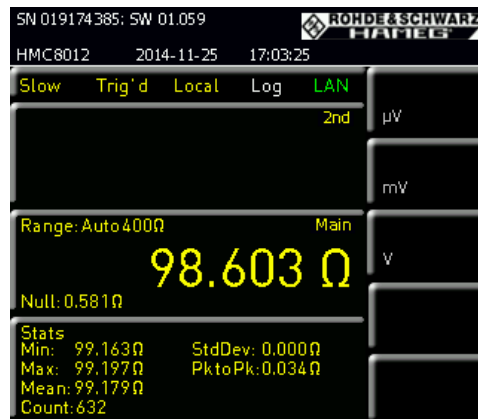

Fig. 2-12: Display of a resistance measurement.
- Additional statistical values such as max., min., mean, etc. are displayed under the main measurement result (Fig. 2-12). To hide the values or to change the settings, press the **MEAS** key and select the **STATS** softkey.
- Additional statistical values such as max., min., mean, etc. are displayed under the main measurement result (Fig. 2-12). To hide the values or to change the settings, press the *MEAS* key and then select the *STATS* softkey.